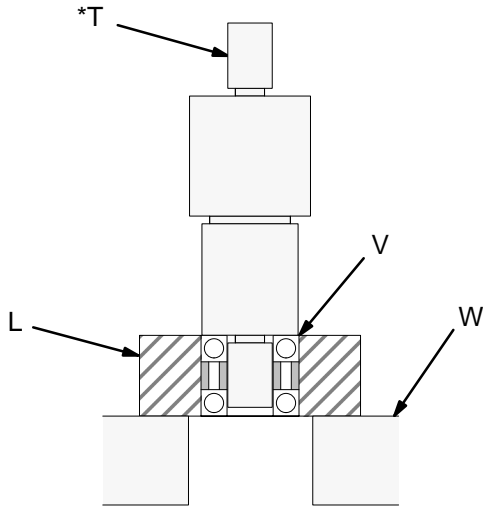

Fig. 6
4. Remove the gears (L) and washers (K).
5. Support a gear on its sides and position the bearing tool (T*) as shown in Fig. 6. Make sure the gear has sufficient clearance in the center to press out the bearings and spacers.